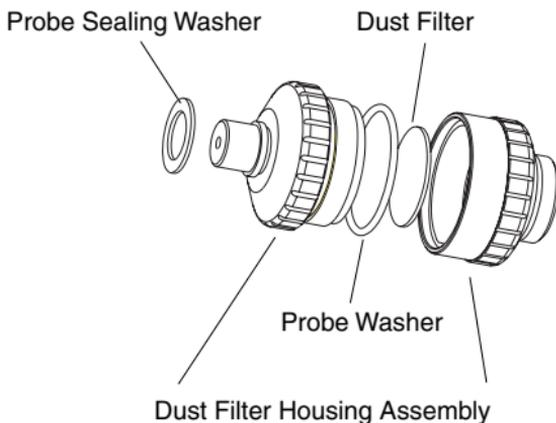

Fig. 5-10 Dust Filter Assembly
1. *Unscrew the filter housing assembly (Figure 5-10).*